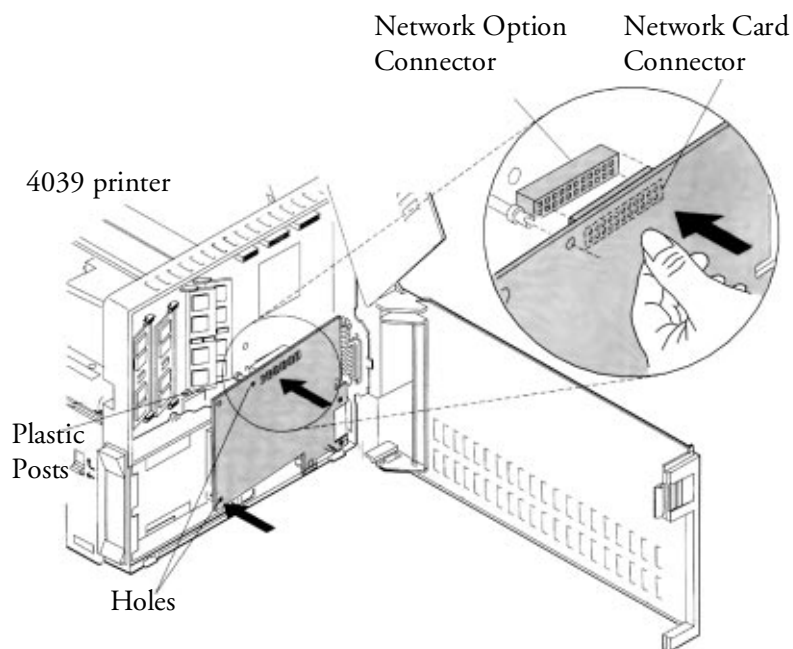

Figure 13. 4039 printer.
6. Mount the AFP IOP card to the IOP connector on the Lexmark printer. Fit the holes on the interface to the two white plastic pins on the main board. See figures 13 (4039) and 14 (Optra).